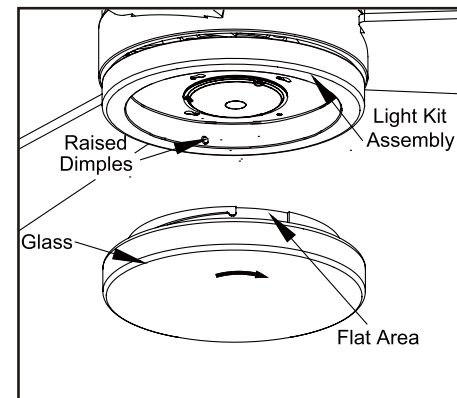

Figure 17
- Place the glass bowl into the light kit fitter assembly, aligning the three raised dimples in the light kit pan. Turn the glass bowl clockwise until it stops. (Figure 17)